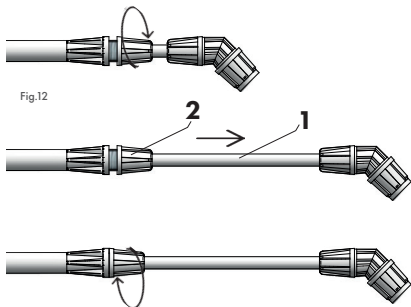
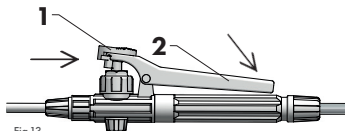

Fig.12
Fig.13
The length of the sprayer lance can be adjusted. To do so, loosen the bell-shaped nut (fig. 12/pos. 2), slide out the telescopic section of the lance (fig. 12/pos. 1) to the required length (max. 0.54 m) and tighten the bell-shaped nut (fig. 12/pos. 2).
The lock on the handle lever (fig. 13/pos. 1) allows for continuous spraying. In order to lock the handle, press the lever (fig. 12/pos. 1) and slide the lock (fig. 13/pos. 2) as shown in the figure below. To unlock, slide the lock (fig. 13/pos. 1) in the opposite direction.